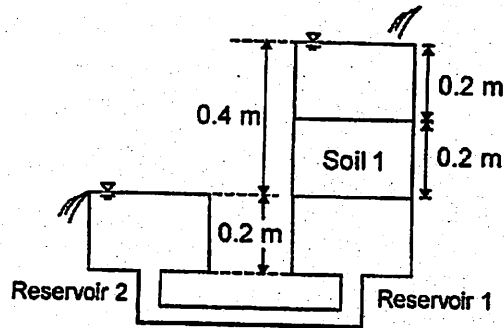

Figure 1
- (a) Soil 1 with a cross-sectional area of $1.0 \times 10^{-2} \text{ m}^2$ is set up in the permeameter in which the specimen is supported by a mesh at the bottom. A constant-head difference across the specimen is maintained as shown in Figure 1. After a constant flow rate is established, the flow rate reaches $2.4 \times 10^{-5} \text{ m}^3/\text{min}$. Determine the hydraulic conductivity (coefficient of permeability) of Soil 1. Assume that the specimen is fully saturated with water once the constant flow rate is established.